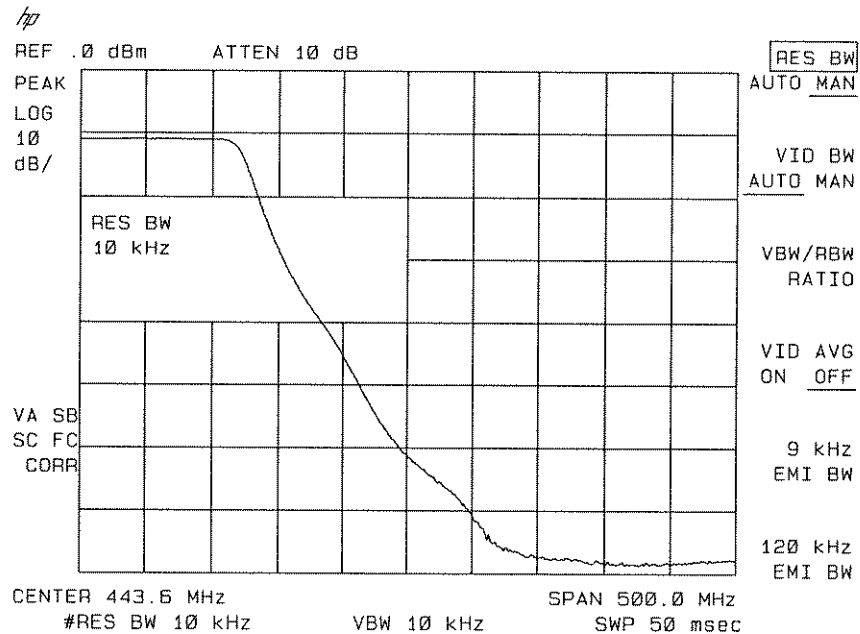

Figure 6-36. Decrease the Resolution Bandwidth to Improve Sensitivity
6. Decrease the resolution bandwidth to increase sensitivity, and narrow the video bandwidth to smooth the noise. In Figure 6-36, the resolution bandwidth has been decreased to 10 kHz.